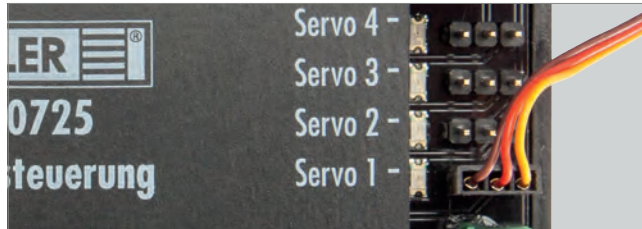

Fig. 3: Connecting servos
- ▶ Connect one or several servos to one or several of the »Servo 1« to »Servo 4« ports on the Servo Control, see Fig. 3.